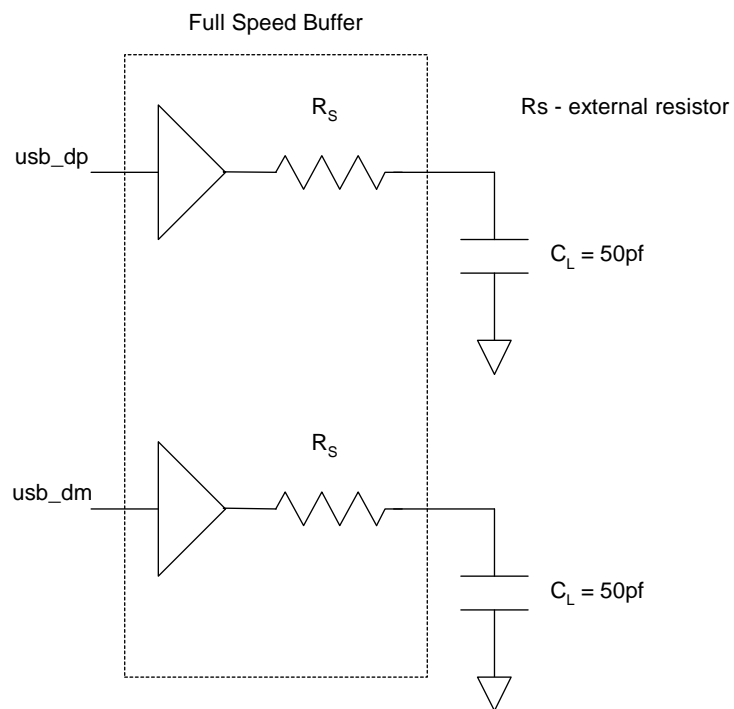

Figure 139: USB full speed load
- 1 Load shown in Figure 139, "USB full speed load," on page 824.